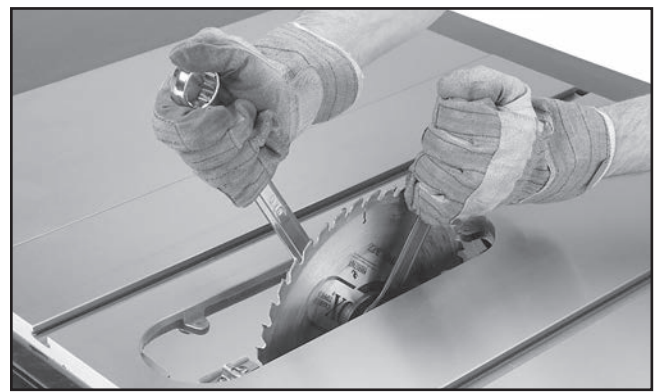

Figure 60. Loosening arbor nut.
3. Use the arbor wrenches to loosen and remove the arbor nut (see **Figure 60**), flange, and blade. **Note:** *The arbor nut has right hand threads; turn it counterclockwise to loosen.*
5. Re-install the arbor flange and the arbor nut, then tighten them against the blade with the wrenches included with the saw, as shown in **Figure 60**. DO NOT overtighten.